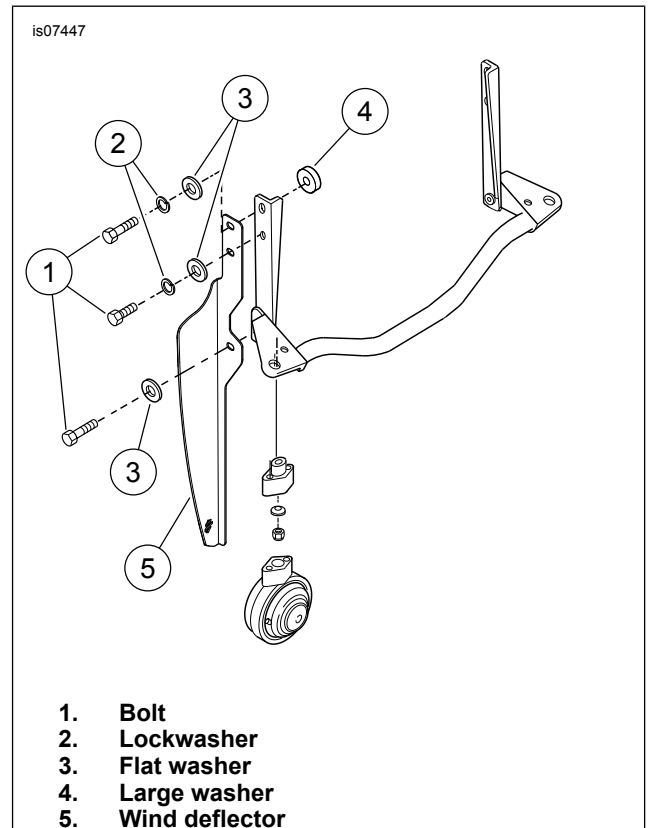
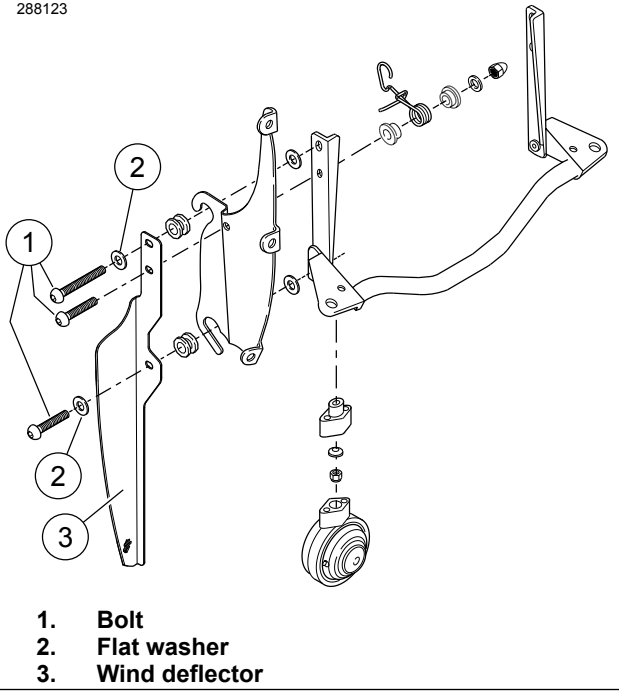

Figure 1. Assembly with Rigid Mount Windshield
Figure 2. Assembly with Detachable Windshield
1. **With rigid mount windshield**, see Figure 1.
- a. Remove the bolts (1), lockwashers (2), and flat washers (3) securing one side of the windshield support bracket/passing lamp bracket. Save all hardware for installation. Be sure the large spacer (4) between the auxiliary lamp bracket and the fork remains in place.
- b. Place the wind deflector (5) outboard of the passing lamp bracket. Install the hardware removed in Step 1a, but **do not** tighten the bolts now.
2. **With detachable windshield**, see Figure 2.
- a. Remove the bolts (1) and flat washers (2) securing one side of the windshield docking point/passing lamp bracket. Save all hardware for installation.